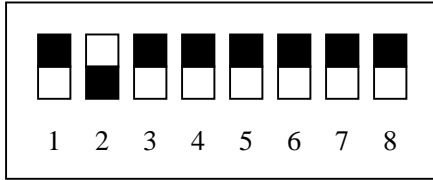

Figure1. DIP Switch
(1) Memory dump for single system configuration
① Set DIP switch No. 2 as shown in Figure 1. (Dump is used)